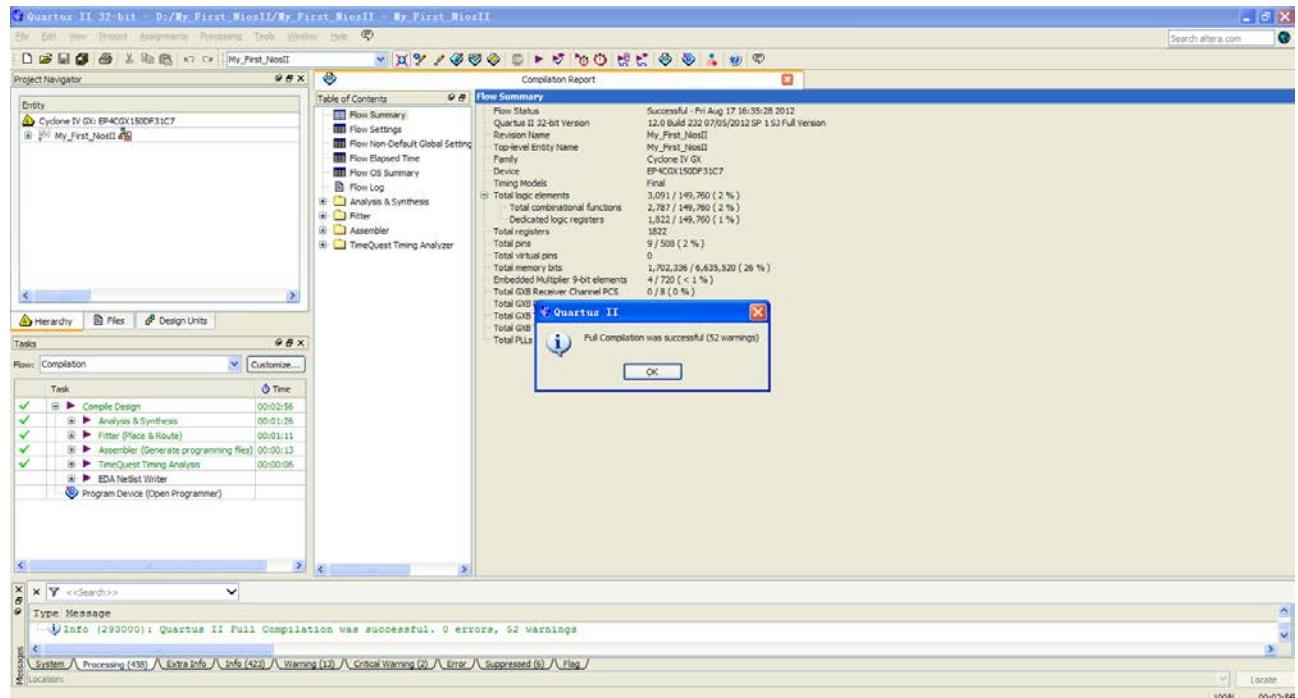

Figure 1-68 Compilation project again
41. Close the pin planner. Restart compilation the project as shown in Figure 1-68.